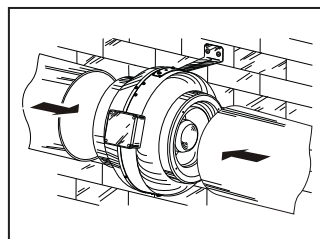

Fig. 12
6. Connect air ducts, fig. 12.